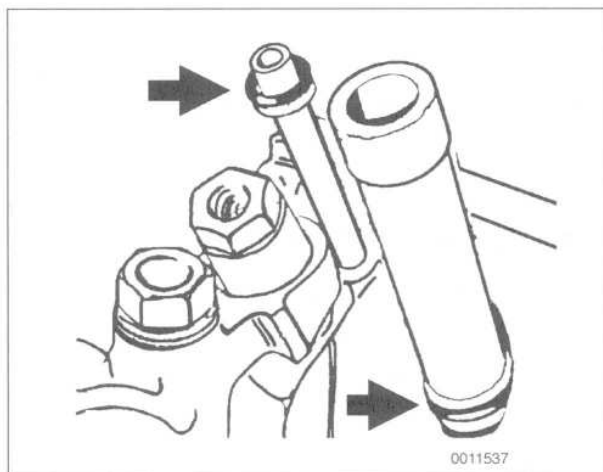

Fig. 11. Oil pipes on M60 engine. Inspect O-rings (arrows) and replace as necessary.
4. On M60 engines, remove the two oil pipes from the engine block. Inspect the O-rings on the pipes and replace if crushed or deformed. See Fig. 11.